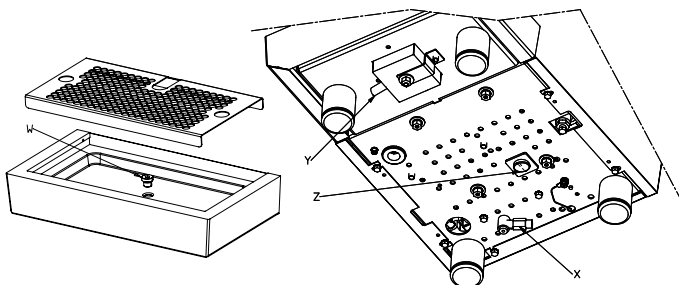

Fig. 2
Removing the cap (W) from the tray and connecting the silicon tube (25) to the pan (Y) you can download directly into the water drainage pipe. (see FIG.2)